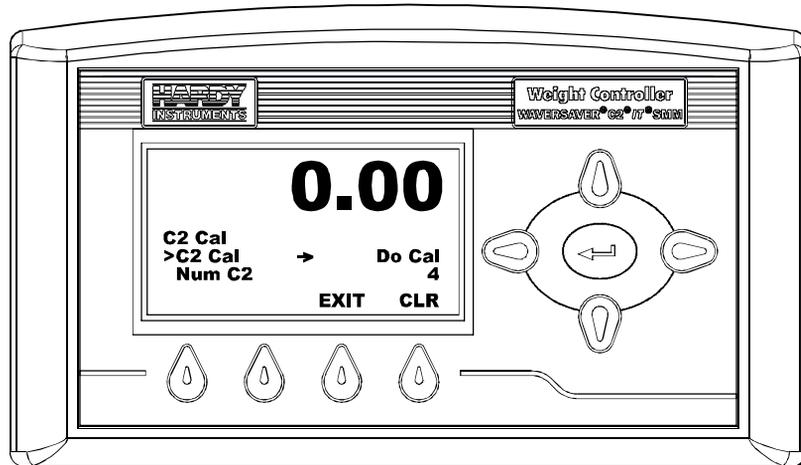

FIG. 309 C2 CAL MENU/SELECTING C2 CAL
Step 9. Press the Down Arrow button until the cursor is in front of C2 Cal. (See Fig. 309)